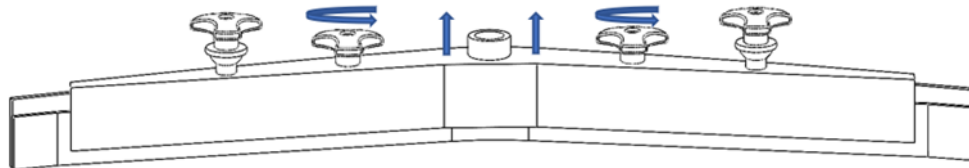

Fig. 4
3. To remove the front squeegee blade, fully loosen inner knobs on the assembly (Fig 4).